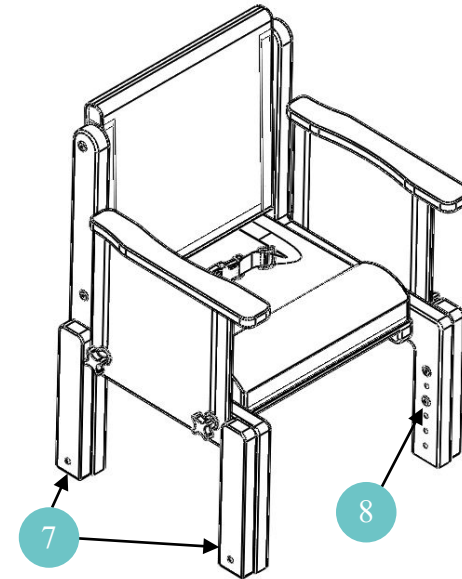

Figure 3
- To adjust the seat height, reposition the leg outriggers (Ref. 7 of Figure 3) using the tool provided for this purpose.
- There are 2 screws per leg (Ref. 8 of Figure 3).